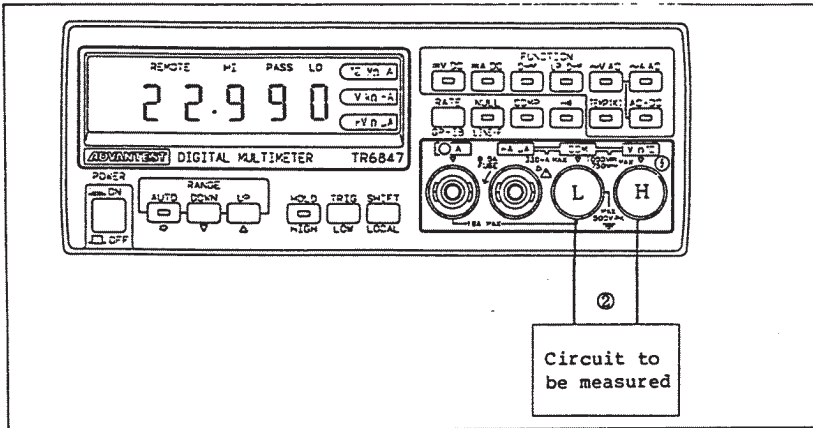

Figure 4-9 Continuity Test
- Step ① Select the continuity test mode by pressing \square or \square . (The LED lights up)
- Step ② Pressing \square . (The LED lights up)
- Step ③ Connect the LO end of input cable to COM terminal, and the HI end to $V\Omega C$ terminal, as shown in Figure 4-9. Detection of continuity is indicated by sounding of the buzzer.